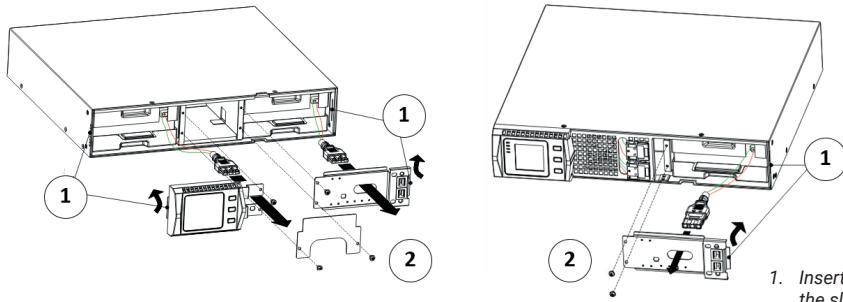

FIG 25: The Installation for baffle of battery pack
3. Remove the connection cables between battery box and UPS. Release the screw of the baffle of the battery pack as the Fig.25 shows, then remove the baffle from the left or right.